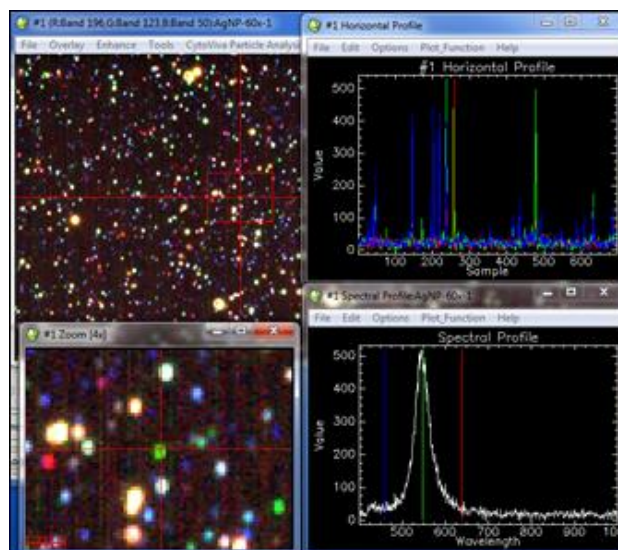

Figure 2.8b. Plot profiles
- The plot will contain the image intensities along the horizontal crosshair (X) or the vertical crosshair (Y), or the Spectral Profile that is contained in the HSI image pixels at the crosshair intersection (Figure 2.8b).